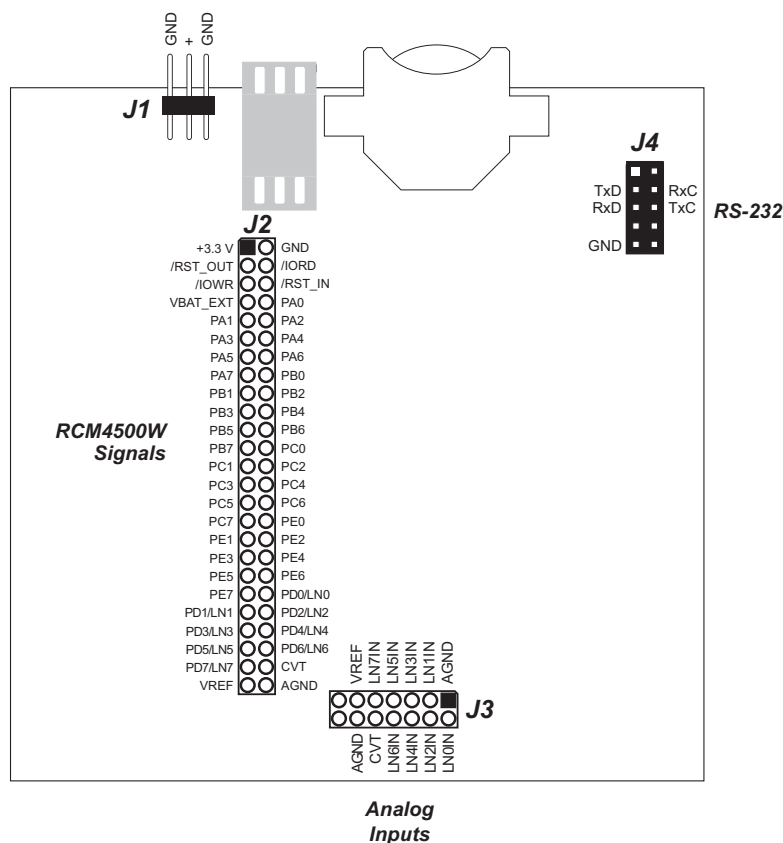

Figure B-4. Prototyping Board Pinout
- **Module Extension Header**—The complete pin set of the RCM4510W module is duplicated at header J2. Developers can solder wires directly into the appropriate holes, or, for more flexible development, a 2 × 25 header strip with a 0.1" pitch can be soldered into place. See Figure B-4 for the header pinouts.
The Prototyping Board provides the user with RCM4510W connection points brought out conveniently to labeled points at header J2 on the Prototyping Board. Although header J2 is unstuffed, a 2×25 header is included in the bag of parts. RS-232 signals (Serial Ports C and D) are available on header J4. A header strip at J4 allows you to connect a ribbon cable, and a ribbon cable to DB9 connector is included with the Development Kit. The pinouts for these locations are shown in Figure B-4.